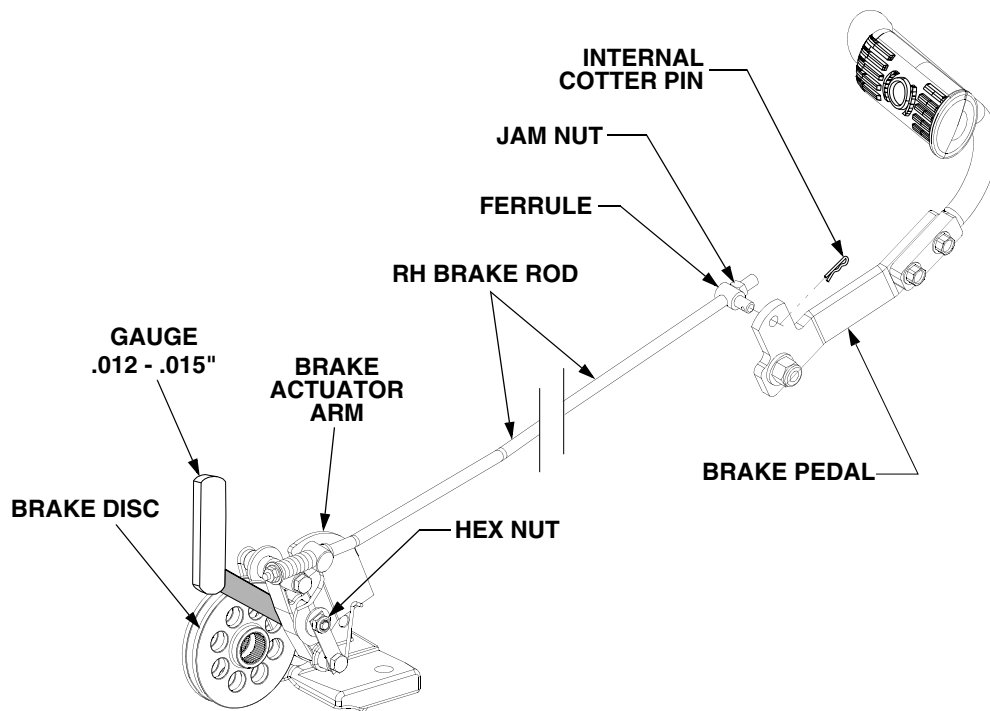

Figure 32
- From beneath the RH running board, remove the internal cotter pin to disengage the brake rod ferrule from the brake pedal. Position the brake rod to make certain there is no pull on the brake actuator arm. See Figure 32.
puck and the brake disc. The gap should measure between .012 and .015". See Figure 32.